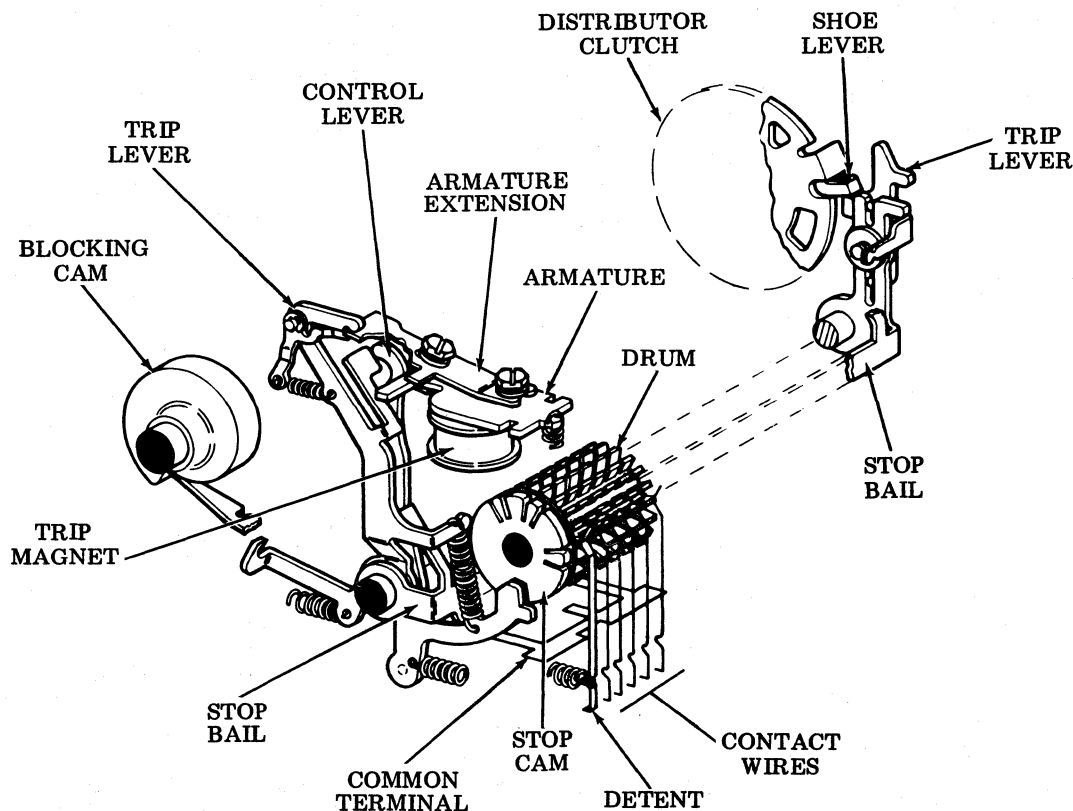

Figure 18 - 187125 Answer-Back Trip Modification Kit
2.79 The 187125 modification kit provides a magnetic answer-back trip coil for "standardized" Model 33 KSR or ASR Sets that did not come from the factory so equipped. The customer must provide a means of energizing the coil. (See Figure 18.)